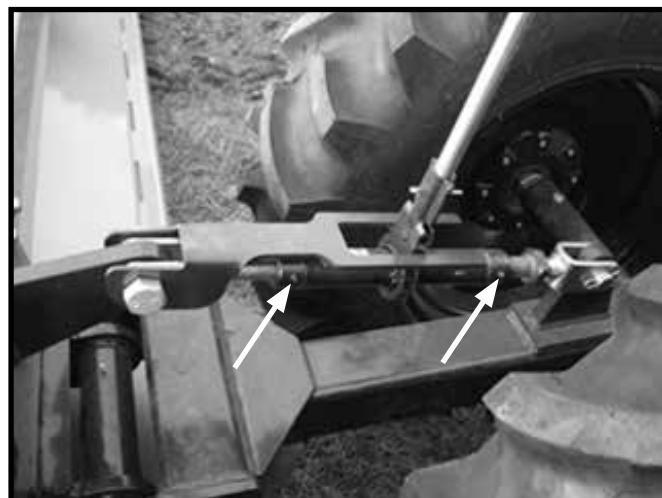

Figure 36. Ratchet Lubrication Points
3. Lubricate ratchets as necessary (2 locations each ratchet). See Figure 36.